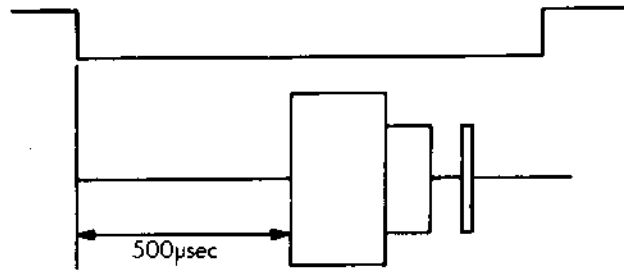

Fig. 5-1 Index burst waveform
- 5) Measure timing between sweep start and an initial data pulse. It should be 500 usec \pm 500 usec. When the timing is not within this range, proceed with the following adjustment. (Refer to Fig. 5-1).
Tighten the screws. (Fig. 5-1).